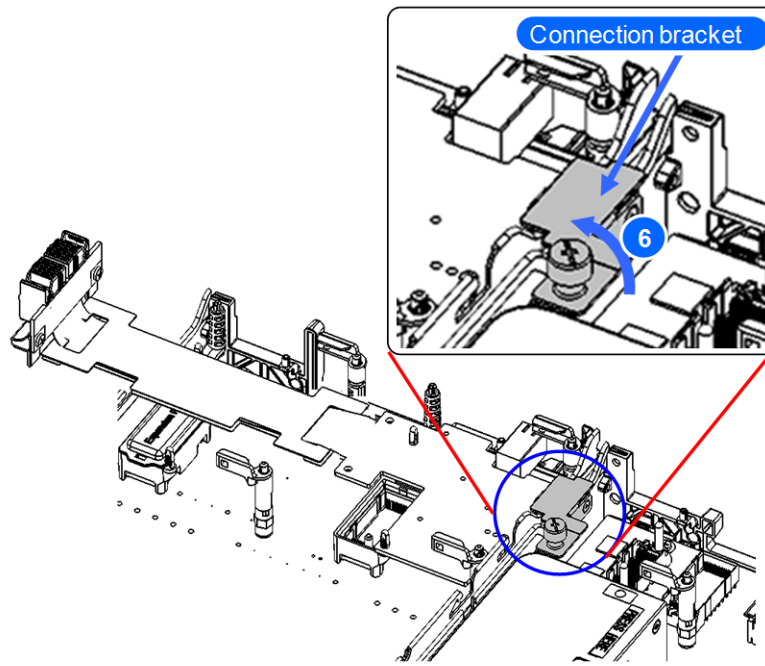

Figure 5-24 Removing the connection bracket
6. Loosen a thumbscrew of the connection bracket, and then remove the bracket. See Figure 5-24 Removing the connection bracket on page 5-24.